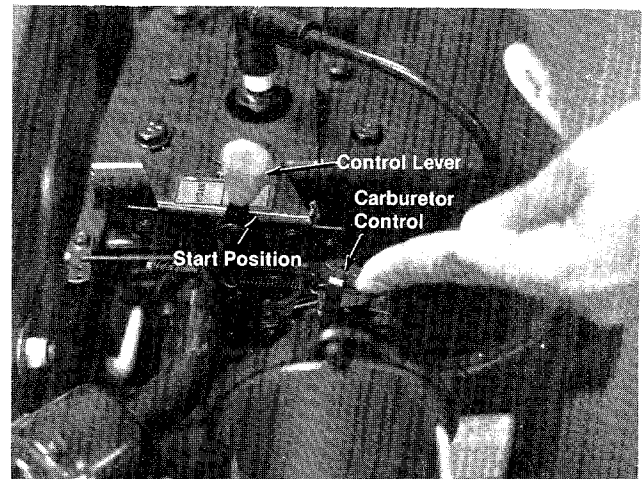

FIGURE 14.
1. Place control lever (on engine) in START position. See figure 14.
2. Move carburetor control to CHOKE position. See figure 14.